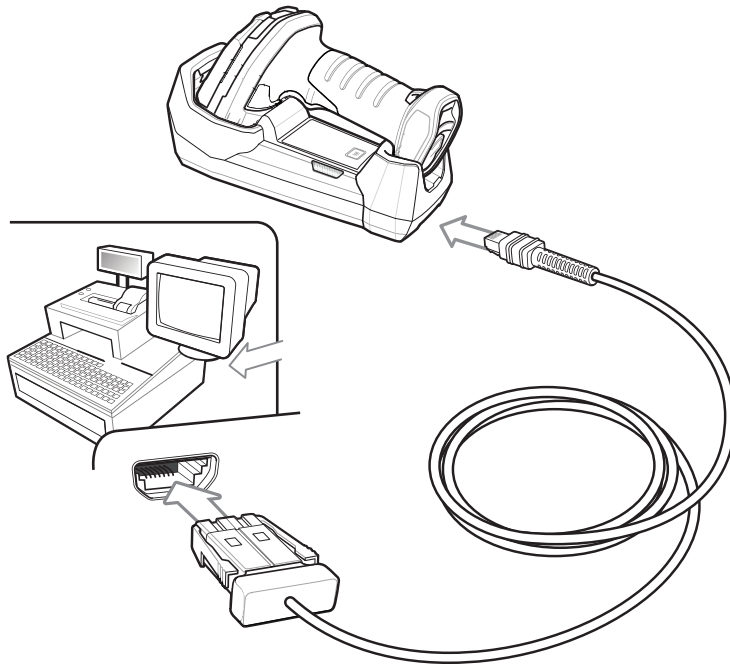

Figure 9-2 *LI3678 Cordless Linear Imager IBM Connection*
- ✓ **NOTE** Interface cables vary depending on configuration. The connectors illustrated in Figure 9-2 are examples only. The connectors may be different from those illustrated, but the steps to connect the cradle remain the same.